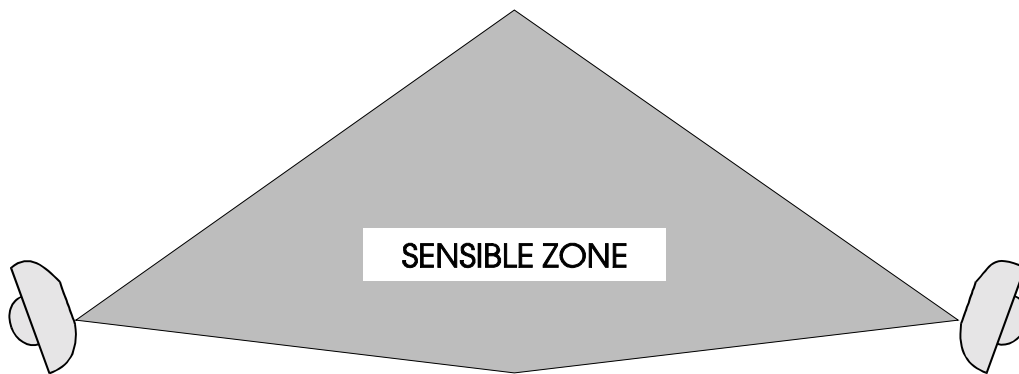

FIG. 5 - Sensitive zone distortion for bad alignment
- **An imperfect alignment between transmitter and receiver** causes, a distortion of the shape of the protective field which is set up, as well as an obvious reduction of the signal received. This fact becomes clearly apparent when considering that the protection field is determined, in the first approximation, by the combination of the principal radiation lobes of the two antennae, which, if perfectly aligned, will establish a regular and symmetrical protection field in the two halves of the section, if badly aligned they will cause asymmetry and a more probable interception of obstacles (even though apparently outside the sensitive field). (FIG. 5)